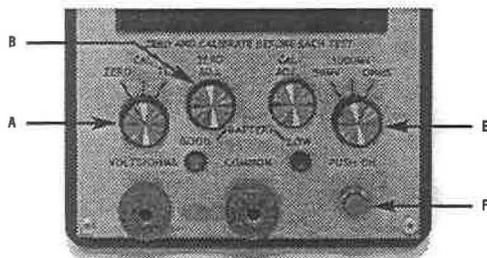

Figure 5
1. With the function knob (A) on **ZERO** and the range knob (E) on the appropriate range, press and hold the **ON** pushbutton (F), using the **ZERO ADJ.** knob (B) to bring the meter to a zero reading. See Figure 5.